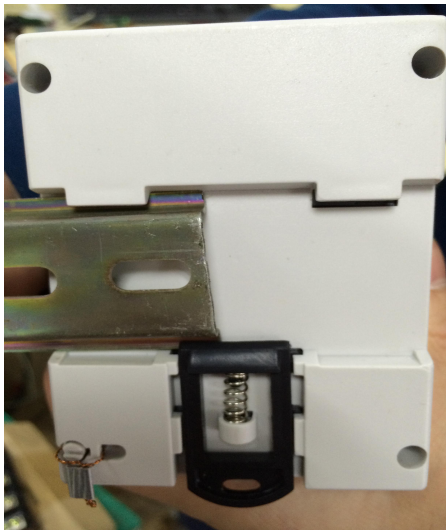
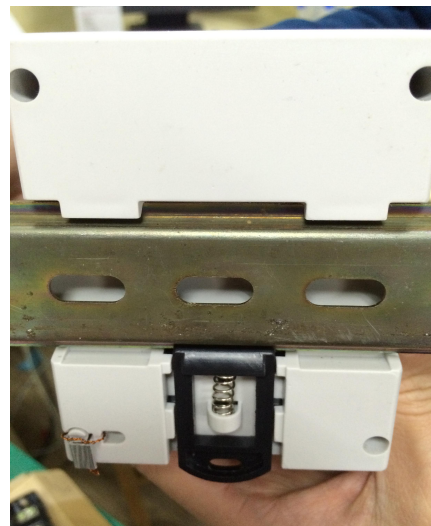

Fig. 3
Fig. 4
- * Put the meter into the Din-rail as per Fig. 3, then push up the clip for a gear, install meter to the Din-rail, see Fig. 4;